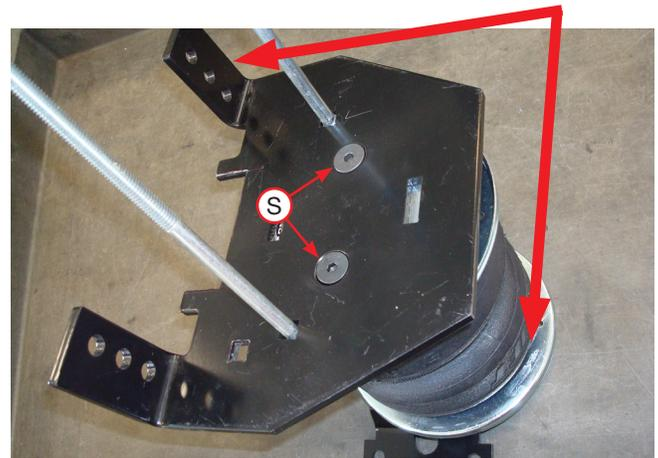

Fig. 17
- Set the lower bracket main plate assemblies onto the air springs with the roll plates installed. Attach with the 3/8"-24 x 3/4" flat-head socket-cap screws (S) (Fig. 17). Torque the hardware to no more than 20 lb.-ft. (27Nm).